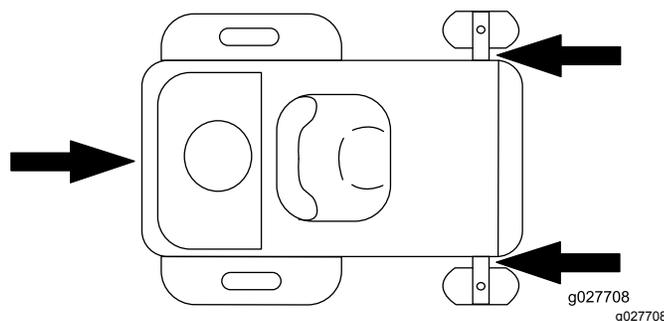

Figure 24
- Securely fasten the machine to the trailer or truck with straps, chains, cable, or ropes. Only use the designated tie-down locations on the mower as shown in Figure 24. Use these locations even when transporting the mower with an attached accessory. Using non-designated locations may cause damage to the mower and/or attachment.